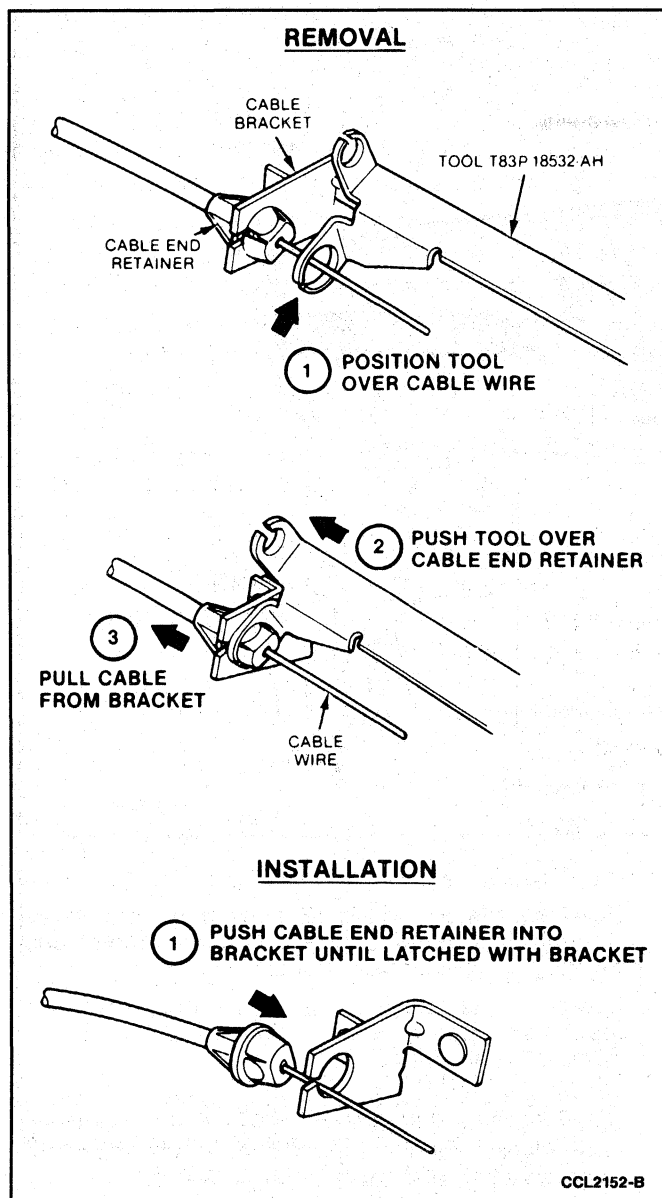

FIG. 16 Control Cable End Retainer Attachment
6. Slide cable housing end retainer into heater case cable bracket. Push on it enough to secure cable housing to bracket (Fig. 16).